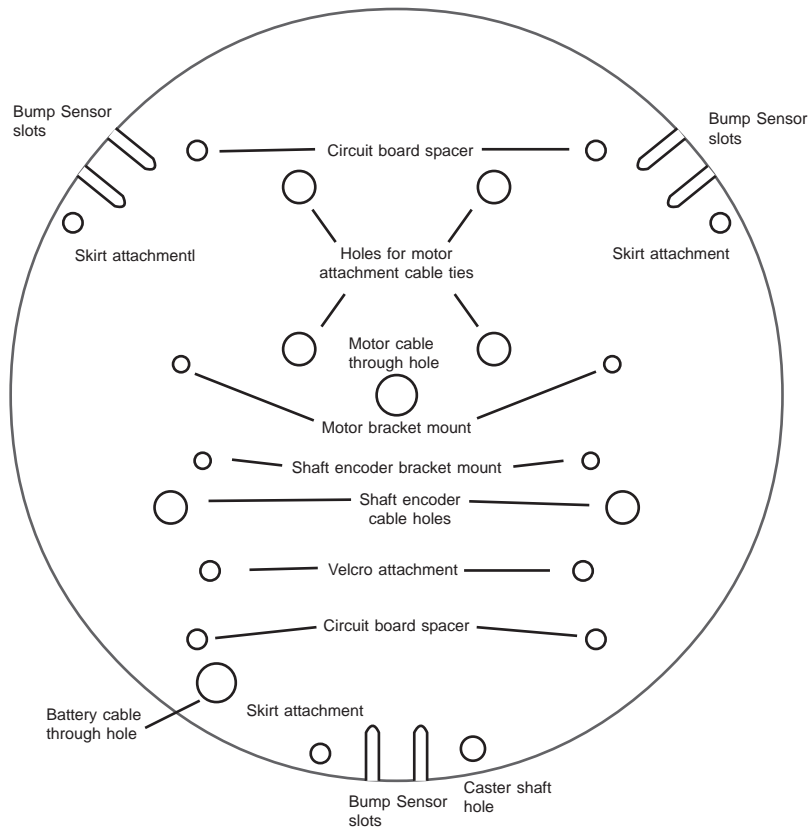
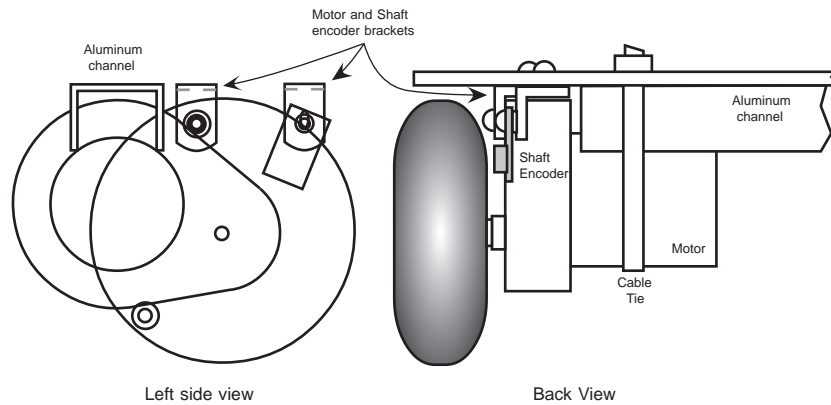

Figure 4.6: Function of the holes in the chassis plate (top view).
Figure 4.7: Detail of the motor/chassis attachment.
Be very careful to orient the chassis plate as shown in Figure 4.6 when attaching components. The figure is a top view—motors and related components attach below the chassis plate; bump switches and the circuit board are attached above the plate.
- Place a piece of electrical tape across the back of each shaft encoder board. Put a 3/8-inch, 4-40 screw through the encoder board's mounting hole from the top. Place two #4 washers on the screw, then secure to the mounting bracket with a 4-40 nut. See Figure 4.7. The second assembly should be a mirror image of the first.
- Loosely attach the motor/bracket assemblies to the underside of the chassis plate using 3/8-inch-long 4-40 screws, 4-40 nuts, and #4 washers. See Figure 4.6 to identify the correct holes. Figure 4.7 shows motor and shaft encoder mounting details.